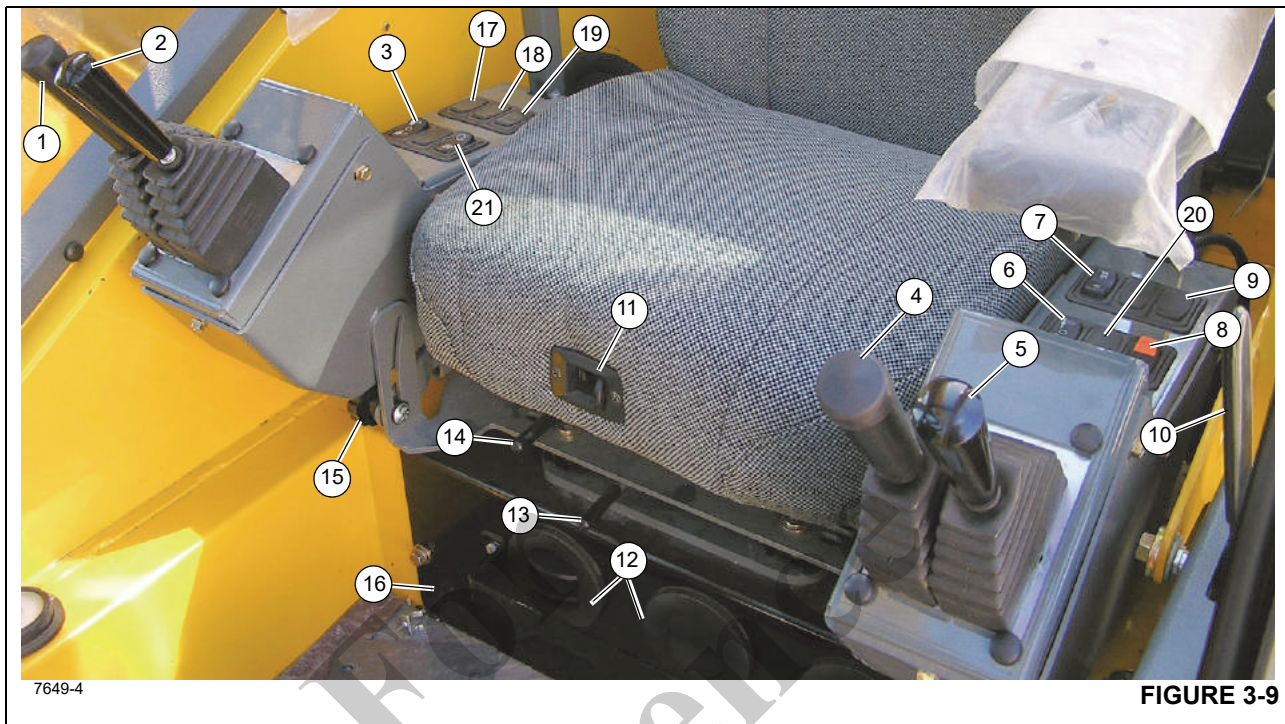

Figure 3-9 Item Numbers
The Interaxle Locked Indicator (22, Figure 3-7) is located in the steering column gauge display. This indicator illuminates when the Differential Lock Switch (10, Figure 3-9) is pressed to the Lock position, when in the Lock position there is no differential action between the wheels.
The Main Hoist Control (1, Figure 3-9) is located on the right armrest. The joystick, when pushed forward, lowers the cable. When pulled back, it raises the cable.
The Boom Lift Control (2, Figure 3-9) is located on the right armrest. The joystick, when pushed forward lowers the boom or pulled back raises the boom.
The Main Hoist Speed Selector Switch (3, Figure 3-9) is a three positioned maintained switch (High/Off/Low) that is
The Auxiliary Hoist Control (4, Figure 3-9) is located on the left armrest. The joystick controls auxiliary hoist functions, push the joystick forward to let out the hoist cable or pull the lever back to reel the cable in.
The Swing Control Joystick (5, Figure 3-9) located on the left armrest, controls the swing function. The joystick, when pushed forward rotates the turntable clockwise or pulled back rotates the turntable counterclockwise, actuates a control valve through hydraulic pilot pressure to provide 360 degree continuous rotation in the desired direction.
The Auxiliary Hoist Speed Selector Switch (6, Figure 3-9) is a three positioned maintained switch (High/Off/Low) that is located on the left armrest. Positioning the switch to High position allows auxiliary hoist functions and energizes the Auxiliary Hoist High Speed Solenoid, resulting in high line speeds. Positioning the switch to the center Off position will prevent hoisting. Positioning the switch to the Low position allows auxiliary hoist functions and de-energizes the Auxiliary Hoist High Speed Solenoid, resulting in low line speeds.
The Rear Steer Control Switch (7, Figure 3-9) is a three-position, spring centered to off, rocker switch, located on the left armrest. Press the bottom of the switch to actuate a control valve to turn the rear wheels to the left, causing the crane to turn to the right. Press the top of the switch actuates a control valve to turn the rear wheels to the right, causing the crane to turn to the left. When the wheels are not centered the Rear Wheels Not Centered light on the steering column illuminates. Releasing the switch causes it to return to the center off position.
The Swing Brake Control Switch (8, Figure 3-9) is located on the left arm rest. This two-position rocker switch (On/Off) is used to control a hydraulic valve that directs a regulated flow of pressure to and from the swing brake. Positioning the switch to On will apply the swing brake and positioning the switch to Off will release the swing brake. When the switch is in the On position, the red indicator light on the steering column is illuminated. The switch has a lock to prevent accidental activation.
The Differential Lock Control Switch (9, Figure 3-9) is located on the left arm rest. It is a two position, momentary rocker switch. When positioned to Lock, the splines on the shift
Use the Cab Door Release Lever (10, Figure 3-9) to open and close the cab door from inside the cab.
To adjust the back of the seat press the adjustment knob (11, Figure 3-9) and then adjust the seat as needed.
The crane cab Air Conditioner/Heater Climate Control unit (16, Figure 3-9) is located in the cab under the driver's seat. The vents (12) are part of the climate control unit and can be adjusted to direct the flow of air.
Moving the Seat Slide Lever (13, Figure 3-9) will slide the seat only, either forward or backward.
Moving the Seat Frame Slide Lever (14, Figure 3-9) will slide the seat and the seat frame, with armrest controls, either forward or backward.
The Armrest and armrest controls can be adjusted using the adjustment knobs (15, Figure 3-9). Loosen the knob and rotate the entire armrest to the desired position, retighten the knob when finished making the adjustment.
The Hoist Rotation Indicators for the auxiliary and main hoist is located on top of each hoist control lever (1,4, Figure 3-9). Each indicator is electronically driven by an input signal from a sensor attached to its related hoist and an output signal from a control module. Each hoist control lever (1,4) pulses when its hoist is running so the operator's thumb can sense it.
The Cab Tilt Switch (17, Figure 3-9) is located in the right arm rest. It is a three position, momentary spring centered to off rocker switch. It has two positions, Up and Down, allowing the cab to be tilted either up or down.